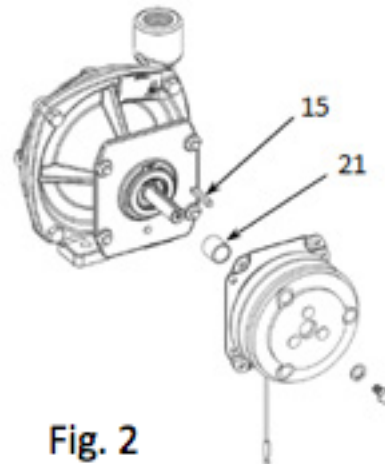

Fig. 2
- Make sure that belt has proper tension. (Too much tension will cause bearing wear; too little will cause slippage.) See Fig. 2.
- Items 15 & 21 will be reused, refer Fig 2.